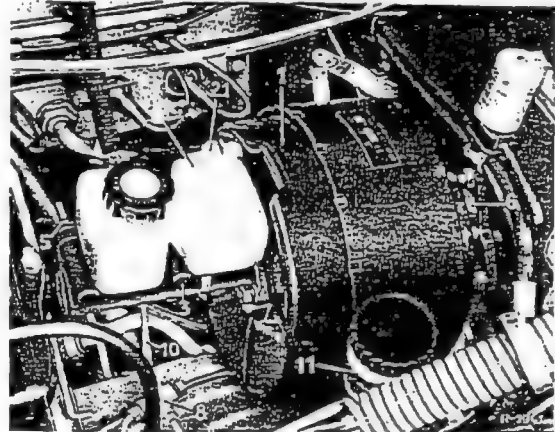

Fig. 42-16/2
3. Detach the vacuum hose (19) from the check valve (21) of the power brake (Figs. 42-16/5 to 42-16/7).